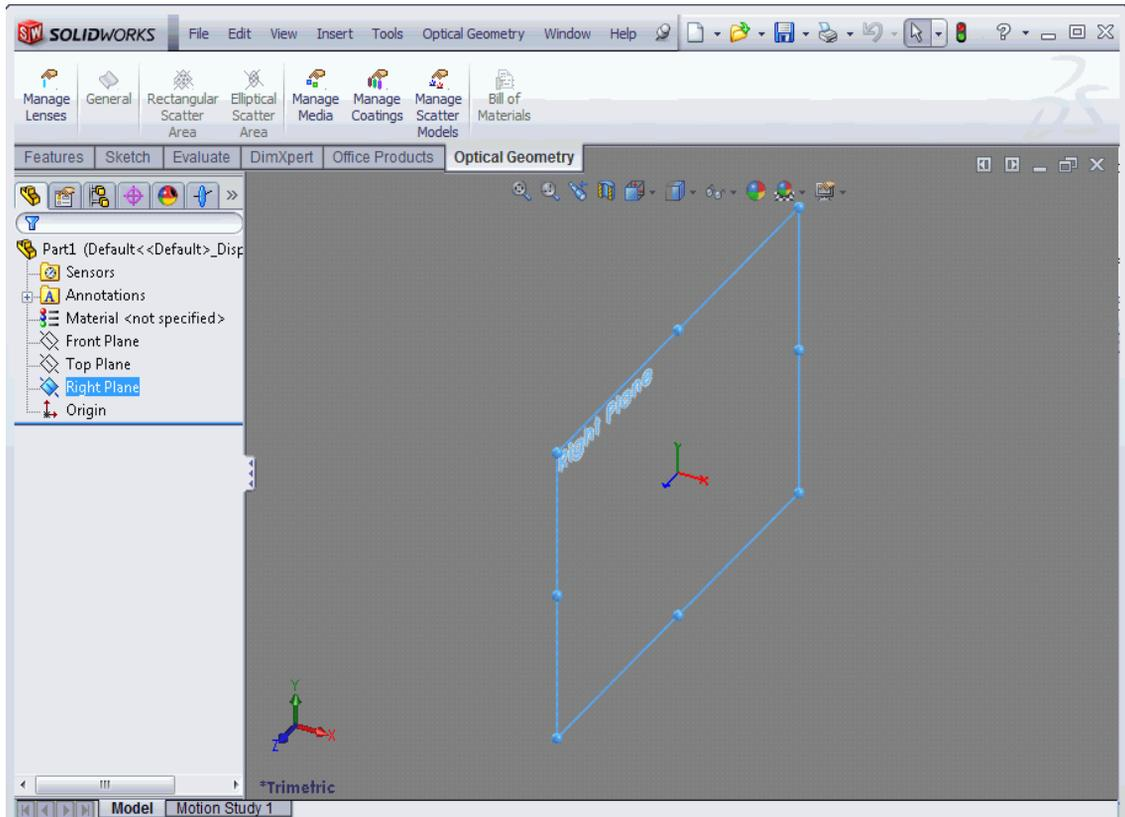

Figure 7 Opening the sketch in the right plane
- 1 Click **Right Plane** on the FeatureManager to open the sketch. See Figure 7.